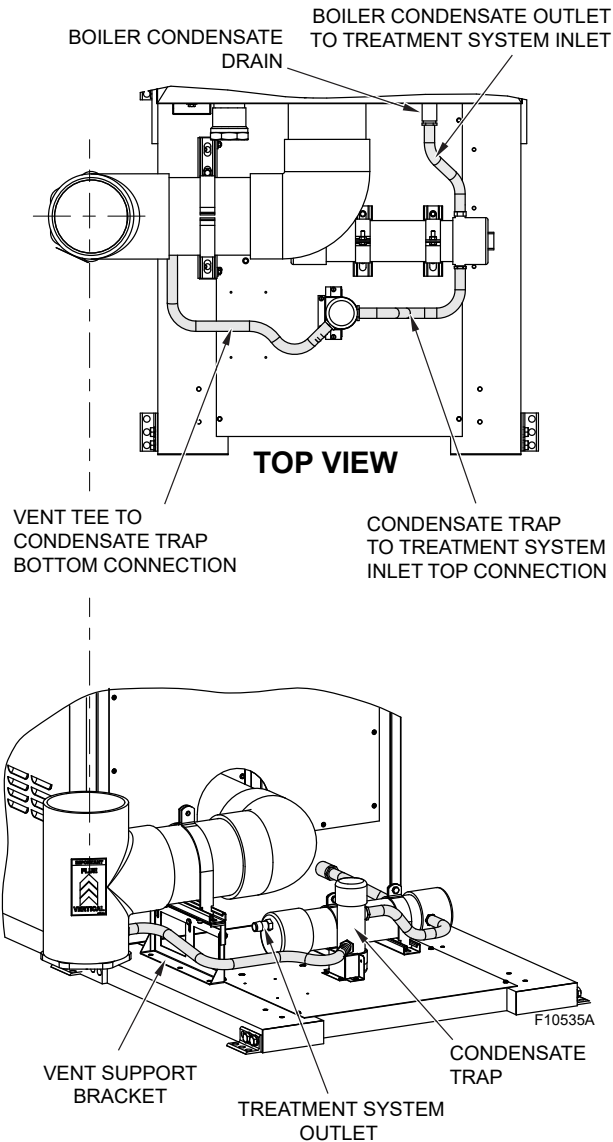

Figure 7. Optional Venting Direction
7. Identify three rubber hoses from the Standard Venting Direction. See **Figure 7**.
9. Remove the vent support bracket and the treatment system base mounting bracket and relocate as shown in **Figure 6** and **Figure 7**.
10. Install the treatment system in opposite direction as shown in **Figure 7**.
14. Install vent elbow and the vent tee as shown in **Figure 7**.